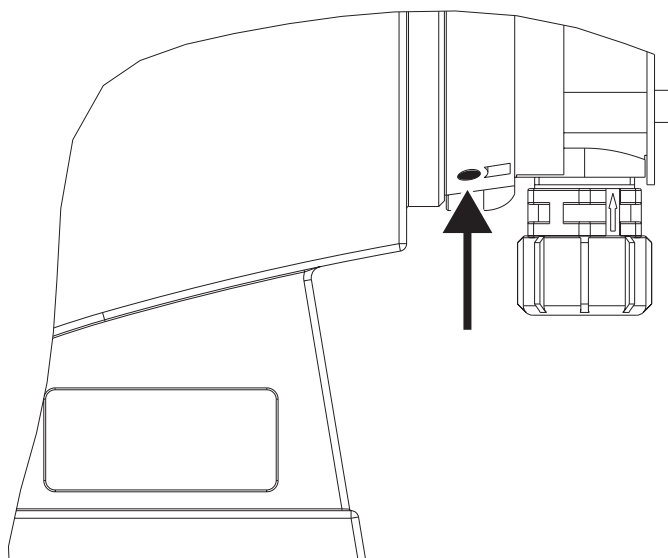
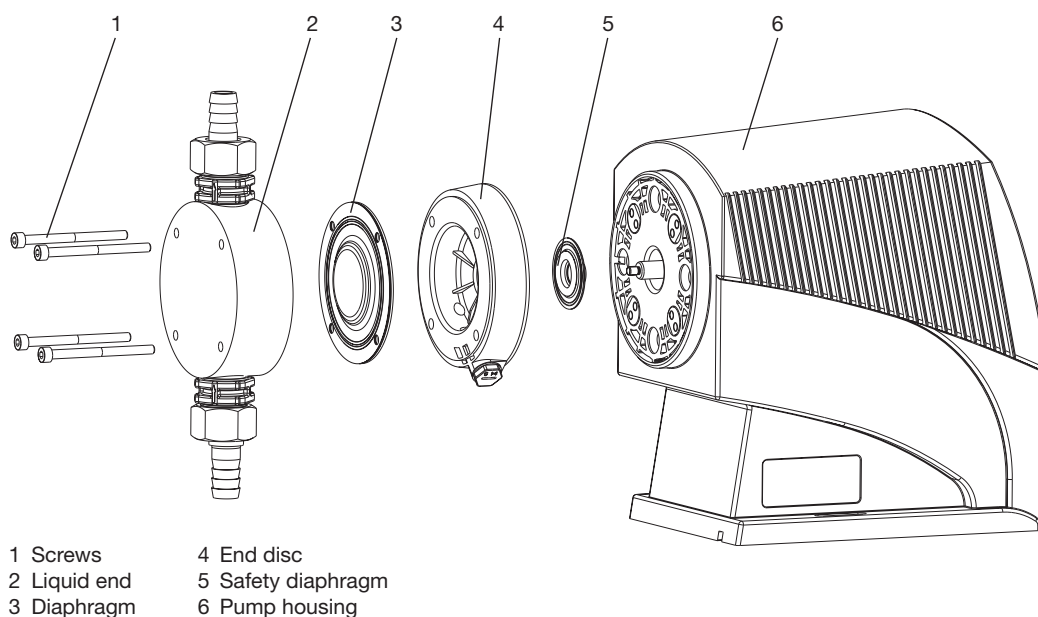

Fig. 25 Leakage hole
Fig. 26
- ▶ Check the entire delivery unit for leakproofness (in particular the leakage hole! see Fig. 25)
- ▶ Remove the liquid end (2) with the screws (1) from the pump (see Fig. 26).
- ▶ Reposition the liquid end (2) with the screws - the screws (1) should be positioned in the holes of the diaphragm (3) but not in the pump housing!
- ▶ Grab the pump housing (6) with one hand and clamp the diaphragm (3) with the other hand between the liquid end (2) and the end disc (4). Loosen the diaphragm (3) from the drive axis by slightly and jerkily turning the liquid end (2) and the end disc (4) clockwise
- ▶ Remove the liquid end (2) with the screws (1) from the diaphragm (3) and unscrew them fully from the drive axis.
- ▶ Remove the end disc (4) from the pump housing (6)
- ▶ Check the condition of the safety diaphragm (5) and replace, if necessary.
- ▶ Push the safety diaphragm (5) onto the drive axis only until it is flush with the pump housing (6) - do not push further!
- ▶ Screw on the new diaphragm (3) onto the drive axis up to the stop by way of trial - this must be successful, otherwise the pump will not dose precisely later!
- ▶ When the pump is running, slowly turn the diaphragm (3) clockwise until the 4 holes of the diaphragm are flush with those of the pump housing (6)
- ▶ Hold the diaphragm (3) in this position, set the stroke length to 0%, and stop the pump.
- ▶ Unscrew the diaphragm (3) again.
- ▶ Position the end disc (4) on the pump housing (6).
- The leakage hole must show to the bottom in the later installation position of the delta® (see Fig. 25)!
- Position the end disc (4) directly in the correct position on the pump housing (6)! Do not twist the end disc on the pump housing to prevent that the safety diaphragm (5) distorts!
- Insert the diaphragm (3) into the end disc (4).
- Hold the end disc (4) and tighten the diaphragm (3) clockwise until it is seated firmly (the turning resistance of the return spring becomes noticeable).
- Do not excessively turn the diaphragm (3)!
- The end disc (4) must remain in its position to prevent that the safety diaphragm distorts!
- Position the liquid end (2) with the screws (1) onto the diaphragm (3) and the end disc (4) (the suction port must show to the bottom in the later installation position of the pump)
- Screw down the screws (1) and tighten crosswise (tightening torques see above)